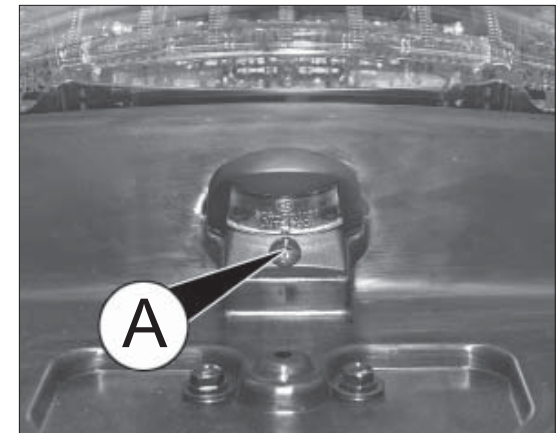

fig. 5
- unscrew screw A fig. 5;
- reposition the plastic cover, screwing down the retaining screw A fig. 5.